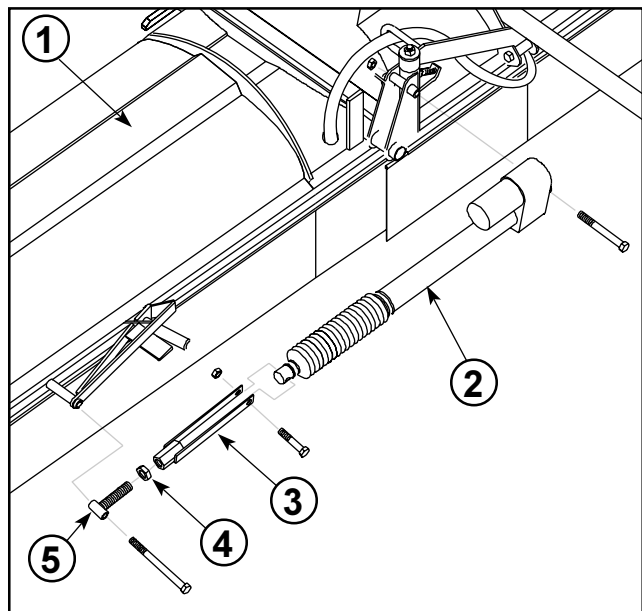

FIG. 13
1. Assemble the Boom Extension Electric Lift Adjustment Links onto the Left and Right Booms using 1/2" x 8" hex hd. cap screws and locknuts. Assemble Electric Actuators onto the Extension Breakaway Pivots using the 1/2" x 5" hex hd. cap screws and locknuts. Connect the other end of the Actuator to the Actuator Adjustment Link using the 1/2" x 2" hex hd. cap screws and lock nuts. FIG. 13.